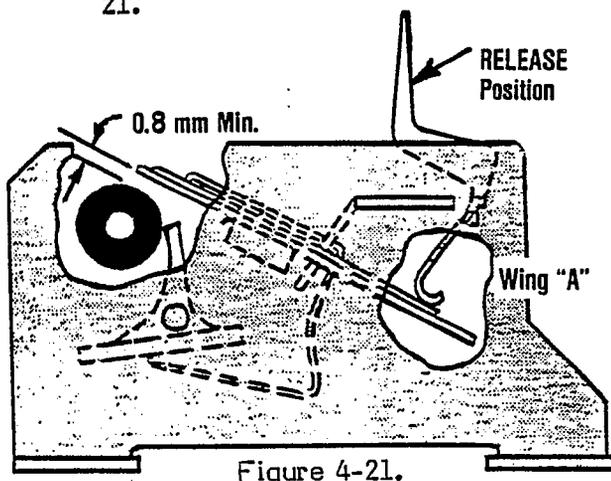

Figure 4-21.
2. When the head release lever is in the activated or RELEASE position, the Thermal Head group must be held away from the platen. Minimum clearance is 0.8mm, as shown. To obtain both these conditions, form wing "A" as necessary; see Figure 4-21.